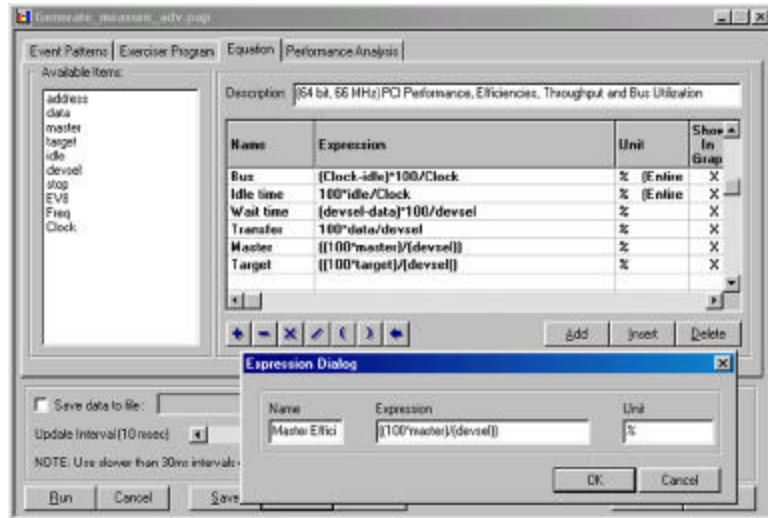

Figure 72 Equation Editor Dialog Box
1. Click the Equation Tab to open the Equation Editor dialog box as shown in Figure 72.